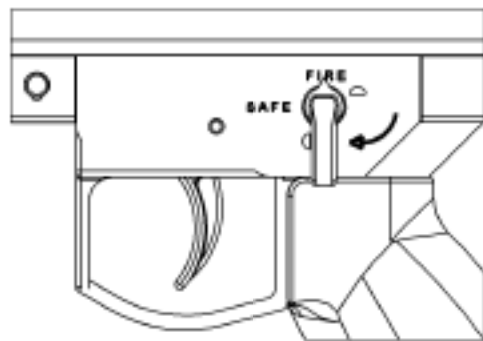

Figure 5. Safety lever to "FIRE".
3. The rifle may now be fired by rotating the safety lever to the "FIRE" (lever vertical) position (Figure 5.) and then pulling the trigger.